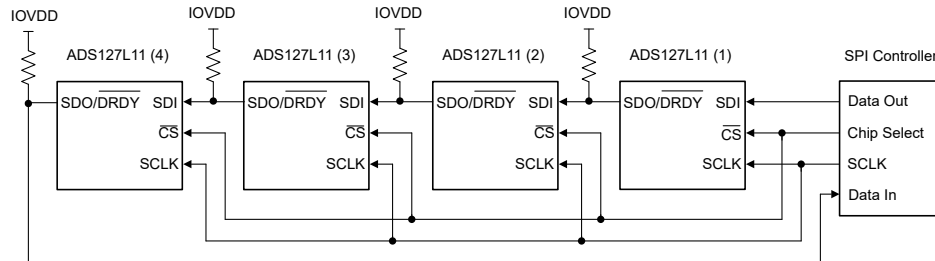

图 8-36. Daisy-Chain Connection
图 8-36 shows four devices connected in a daisy-chain configuration. The SDI of ADS127L11 (1) connects to the host SPI data out, and SDO/DRDY of ADS127L11 (4) connects to the host SPI data input. The shift operation is simultaneous for all devices in the chain. After each ADC shifts out the conversion data, the data of SDI appears on SDO/DRDY to drive the SDI of the next device in the chain. The shift operation continues until the last device in the chain is reached. The SPI frame ends when \overline{CS} is taken high, at which time the data shifted into each device is interpreted. The SDO/DRDY pin must be programmed to data output-only mode.
图 8-38 shows the detailed input data sequence for the daisy-chain write register operation of 图 8-36. 40-bit frames for each ADC are shown (24-bits of data, with the STATUS and CRC bytes enabled). Command operations can be different for each ADC. The read register operation requires a second frame operation to read out the register data.
图 8-39 shows the clock sequence to read conversion data from the device connection provided in 图 8-36. This example illustrates a 32-bit output frame (24-bits of data, with the CRC byte enabled). The output data of ADC (4) is first in the sequence, followed by the data of ADC (3), and so on. The total number of clocks required to shift out the data is given by the number of bits per frame × the number of devices in the chain. In this example, 32-bit output frames × four devices result in 128 total clocks.